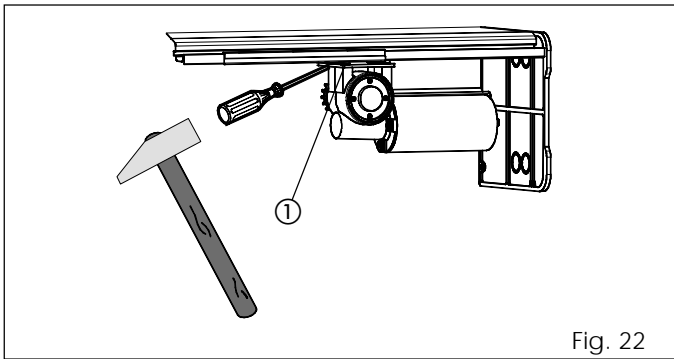

Fig. 22
- Slightly loosen the four fixing screws (fig. 22 ref. ①) of the second motor.
- Push the motor unit outwards using a hammer as shown in fig. 22.